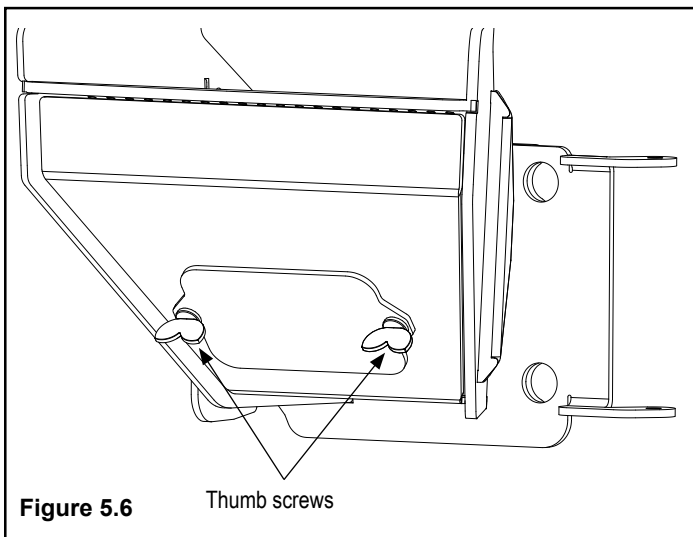

Figure 5.6
- Empty any fines that may have built up under the burn pot grate. To do this loosen the 2 thumb screws located on the front of the burnpot and remove the cover. The air chamber can be cleaned of any ash that has fallen through the holes during operation and cleaning. Figure 5.6